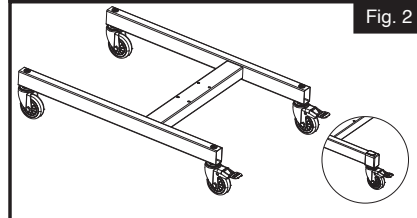

Fig. 2
**NOTE:** The casters with brakes are installed on the short end of the base frame. (Fig. 2)